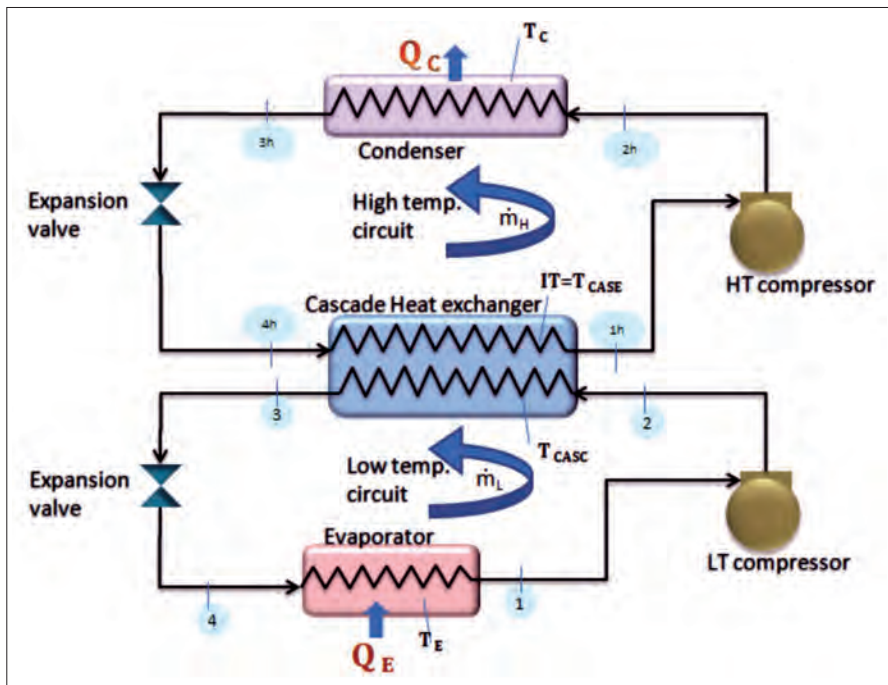

Fig. 1: Schematic of a two-stage cascade refrigeration system...
Many industrial and medical applications require ultra-low-temperature cooling, which cannot be achieved effectively by single-stage or multistage systems due to individual limitations of the refrigerant, hence, a cascade system is the best alternative in these situations. Suitable selection of refrigerants used in high-temperature (HT) and low-temperature (LT) cycles – can provide the required low temperature while attaining good system efficiency. For cascade systems, the lower temperature limit of the HT side is termed as the intermediate temperature (IT); the system performance depends upon IT and hence, it needs to be optimised to obtain maximum performance. A schematic diagram of a two-stage cascade refrigeration system is illustrated in Figure 1.